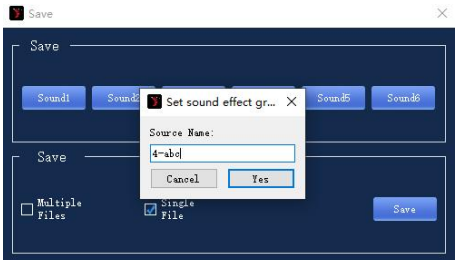

Figure 3.4.3
Step 3: Figure 3.4.2 dialog box, does not show the name of the data indicates that this scene is the factory default data, select the user preset number you want to save the machine location (such as Option 4), and then point below the "save "button, you pop up as shown in Figure 3.4.3," enter the scene name "box. **If you select the number of the existing scene name, it will overwrite the original data! ! !**